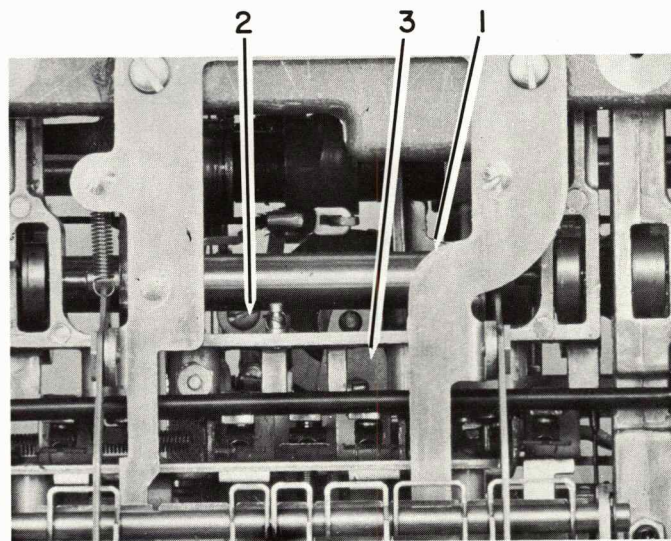

FIGURE 14. Rotate Spring Replacement
- b. On newer machines, remove the lower right and left screws and back out the upper right screw 1/4" (Figure 14).
7. Remove the striker and rotate-spring retaining plate (#3, Figure 14). The rotate spring can now be removed.